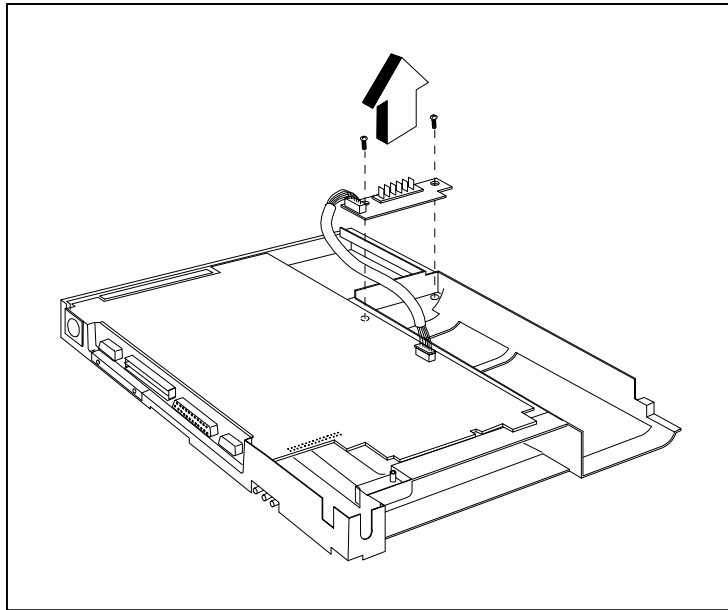

Figure 6-19 Removing/Replacing the Battery Board
3. Remove the two screws holding the Battery Board and remove the Battery Board Assembly (refer to Figure 6-19).